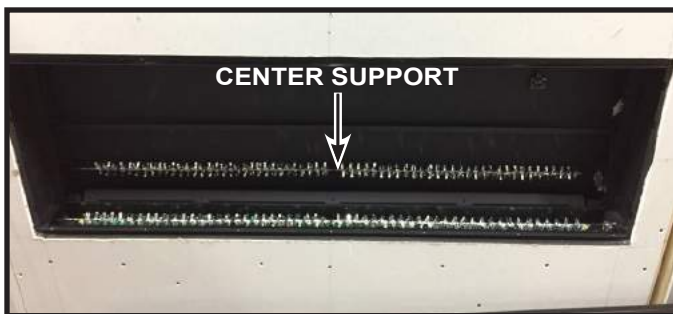

Figure 17
5. Remove screws from the Rotisserie center supports. See Figure 17.
11. Install the replacement motors on the brackets, 2 screws each. See Figure 17.